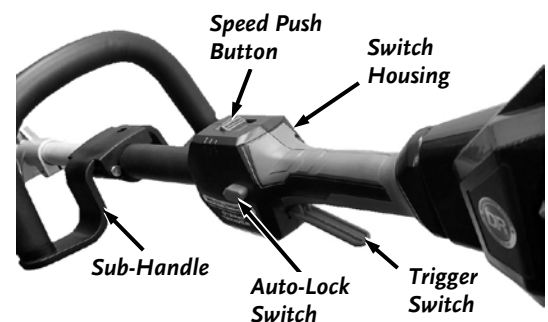

Figure 13
1. Grasp the Sub-handle with one hand and the Switch Housing Handle with the other hand. With the Switch housing hand press the Auto-Lock button in with your thumb and squeeze the Trigger Switch with your fingers (**Figure 13**). Once the Motor starts on the Trimmer you can remove your thumb from the Auto-Lock Button. If the Trimmer Does Not Start, check the Battery connection and Power Status.